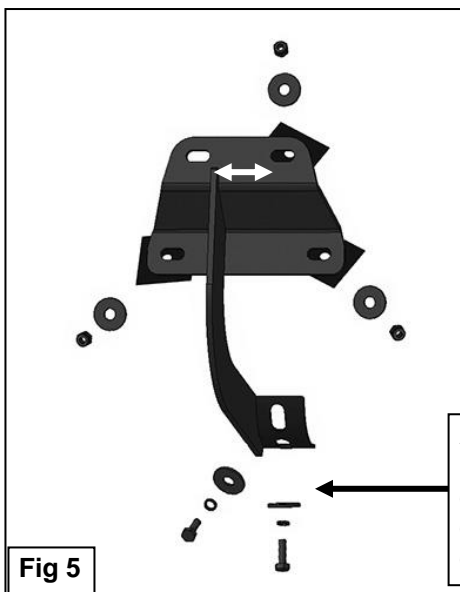

Fig 5
4. Repeat **Steps 1—3** to install the (2) remaining center and rear passenger side Brackets.
5. Select the passenger/right Sidebar. Carefully position the Sidebar onto the (3) Mounting Brackets. **IMPORTANT: Do not slide, (front to back or rotate), the Sidebar on the Brackets or damage to the finish on the Sidebar may result.** Attach the Sidebar to the Mounting Brackets with (6) 8mm x 25mm Hex Bolts, (6) 8mm Lock Washers and (6) 8mm Flat Washers, **(Figure 5)**. Do not tighten hardware.